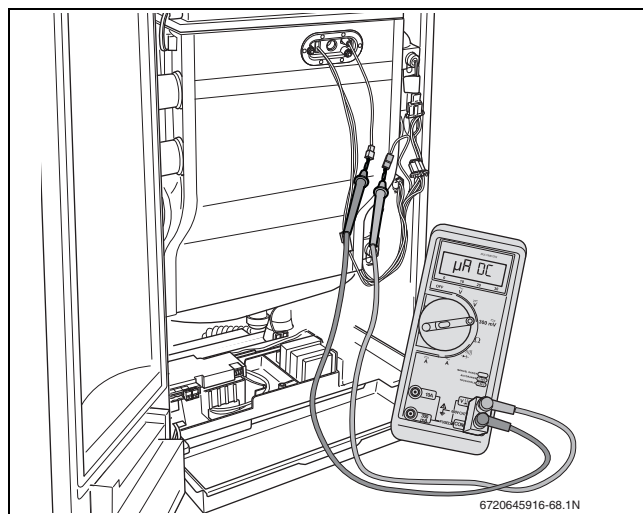

Fig. 72 Measuring the ionization current
- ▶ Connect the multi meter in series (→ fig. 72). Select the $\mu\text{A DC}$ range on the multi meter. The multi meter must have a resolution of at least $1 \mu\text{A}$.